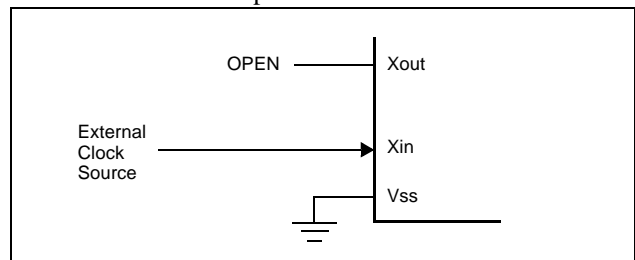

**Figure 10-2 Oscillator Connections**
XIN and XOUT are the input and output, respectively, a inverting amplifier which can be set for use as an on-chip oscillator, as shown in Figure 10-2 .
**Note:** When using a system clock oscillator, carry out wiring in the broken line area in Figure 10-2 to prevent any effects from wiring capacities.